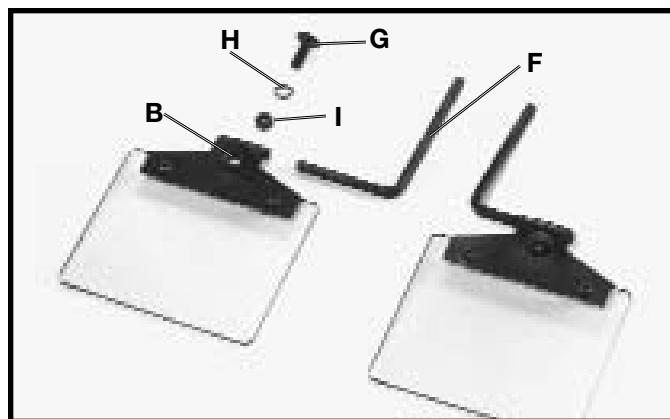

Fig. 7
2. Insert the short end of mounting rod (F) Fig. 7, into hole of frame (B) and fasten in place with 1/4-20x3/4" carriage head screw (G), 5/16" lock washer (H), and 1/4-20 hex nut (I).